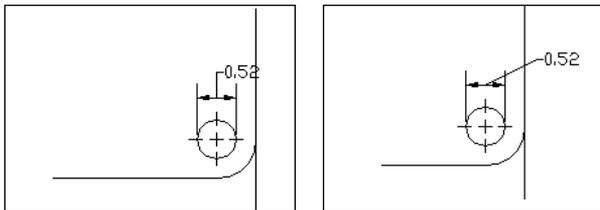

Figure 15-19: Dimension text is placed over the dimension line with a leader. On the right, the text has been moved to the right of the model.
- ♦ **Over the Dimension Line, with a Leader:** Places the dimension text over the dimension line, between the extension lines, but above them, with a leader from the dimension line to the text. You can move the text anywhere to suit your needs and dimensioning conventions, as shown in Figure 15-19.